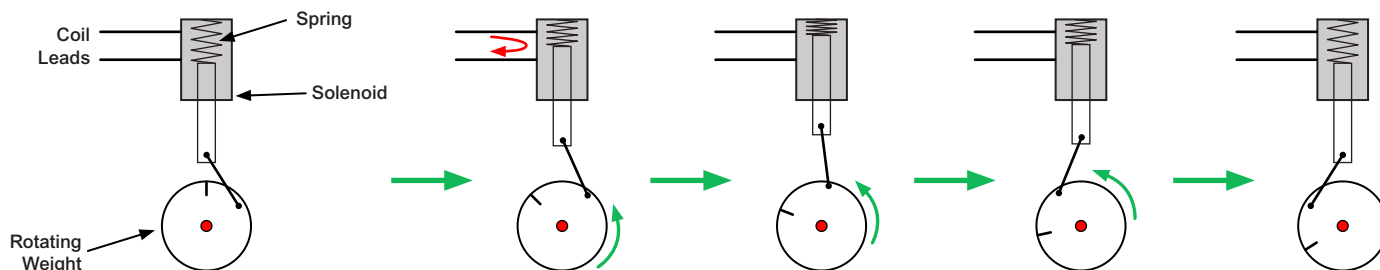

Figure 4: Mechanism Rotation Sequence
This arrangement also conforms with a similar requirement in Article 701.5(C) of the 2017 National Electrical Code®.2 Figure 4 shows the operating sequence for a single transfer.